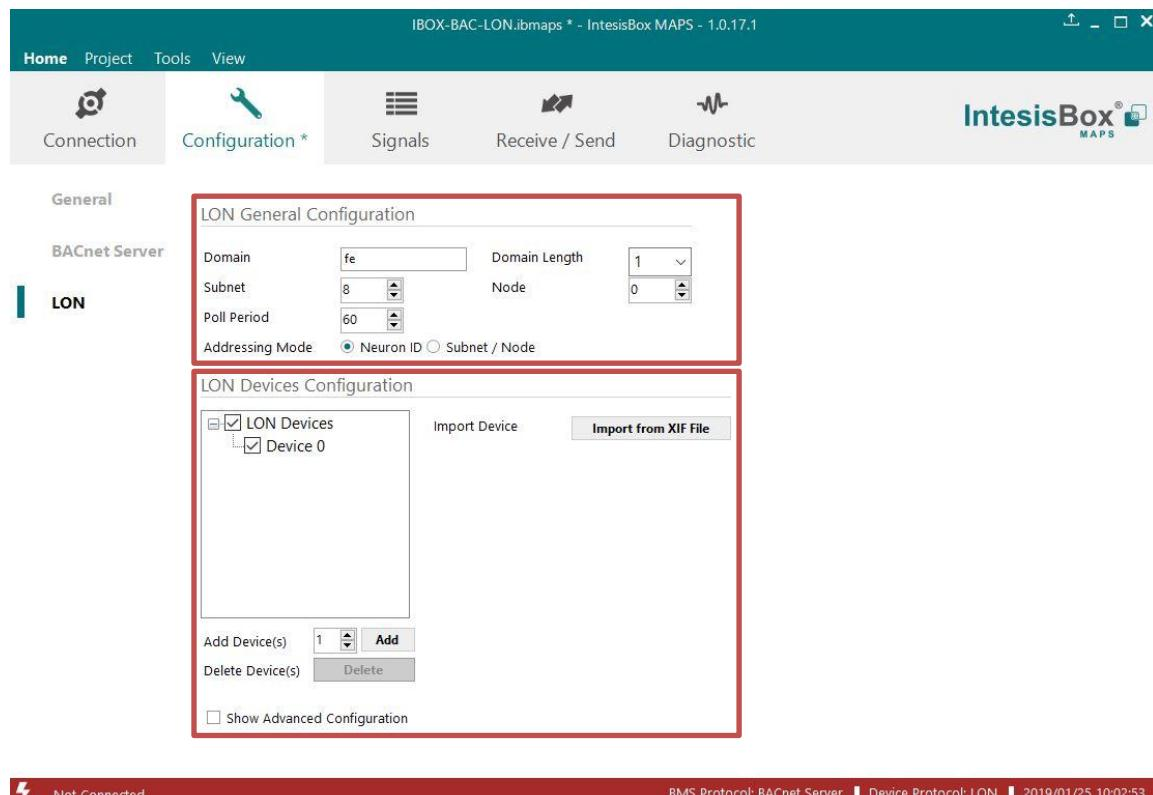

Figure 10.1 IntesisBox MAPS Configuration tab
- **Import from XIF file:** A new dialog will open providing the possibility of importing a LonWorks XIF file to get access to all the variables of the related LON device. (see Figure 10.1).